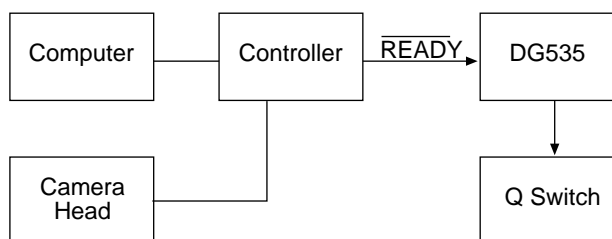
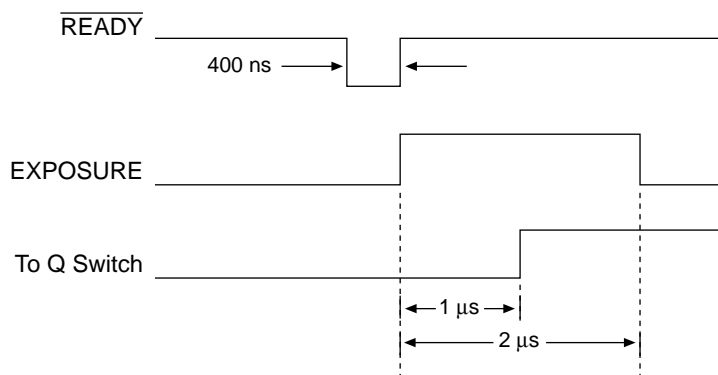

Figure 49. Setup using **READY** to trigger an event
Figure 50. Timing for experiment setup shown in Figure 49
**Example:** Figure 49 shows an experiment where the rising edge of the **READY** signal is used to trigger a DG535 Delay Generator, which provides the required delay and triggers a laser source, Q switch, or other device.
Figure 50 illustrates the timing for a typical experiment like that shown in Figure 49.